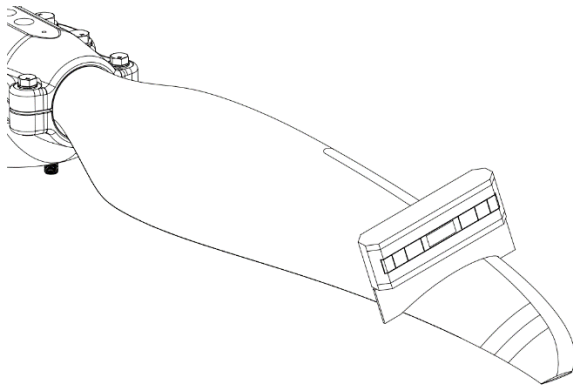

Figure 4: Template and Digital Level/Protractor Positioned on Blade.
10. Place the digital level/protractor on the template and then place the template on the round side of the blade at the 75% station mark from step 9. To ensure template is positioned on the blade correctly, hook the leading edge of the blade with the template and then rotate the template down until it contacts the blade surface. See **Figure 4**.